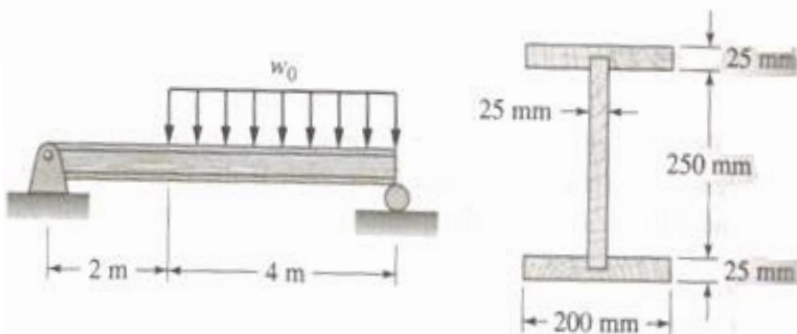

Fig. 3
4.	Locate the neutral axis and calculate the value of $I_{ZZ}$ for the T section as shown in Fig. 3. Determine stresses at top and bottom if the applied moment is $60 \text{ kNm}$ . (Assume tension at bottom).
4.	The manufactured wood beam carries the concentrated loads as shown in Fig. 3 . What is the maximum safe value of $w_0$ if the working stress is 10 MPa in bending and 2.0 MPa in shear.